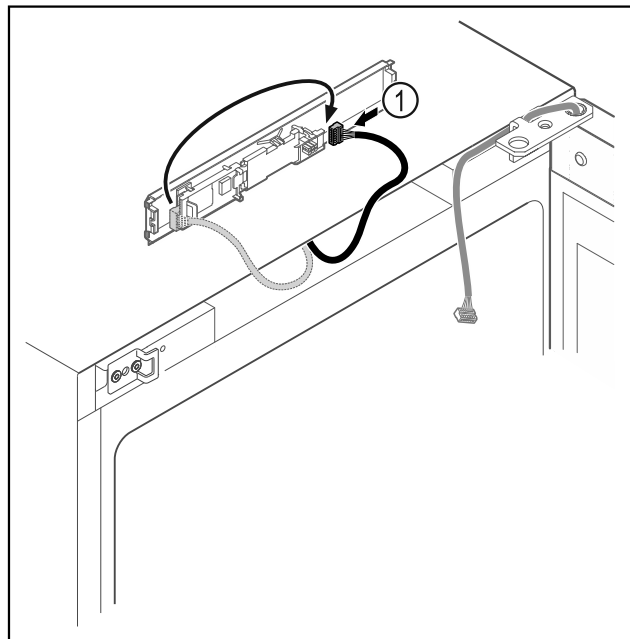

Fig. 18
- ▶ Connect the plug Fig. 18 (1) to the circuit board.